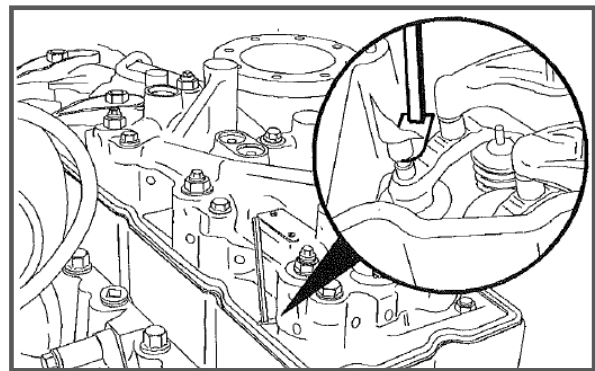

FIGURE 5
4. Insert the appropriate brake lash feeler gauge (P/N 3163681 (0.090") or 5572956 (0.067") for L9 2021 engines) between the brake slave piston and exhaust head pin on cylinder one (1). See Figure 5.